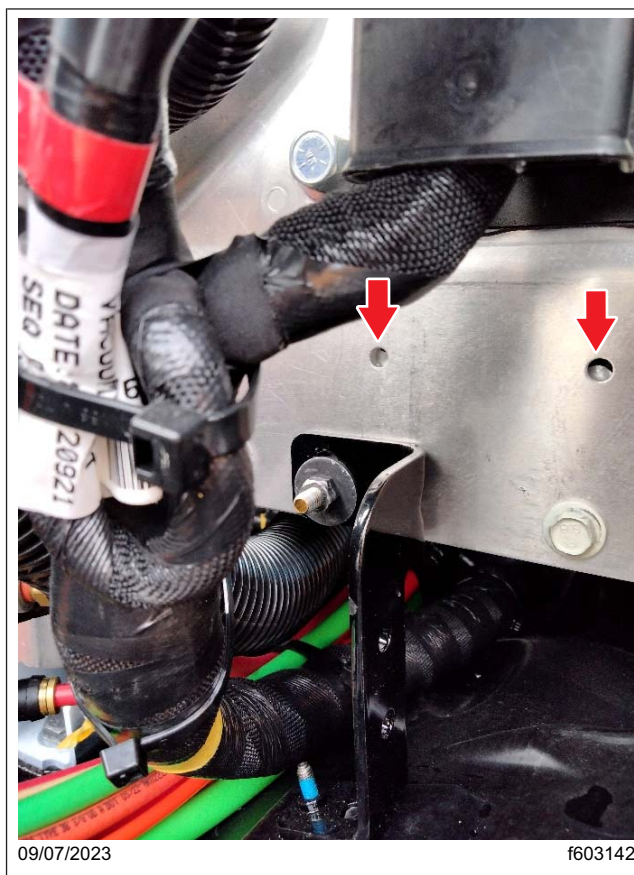

Fig. 13, Holes Located Behind the Harness
12. If removed, install the bulkhead connection harness. See Fig. 13.